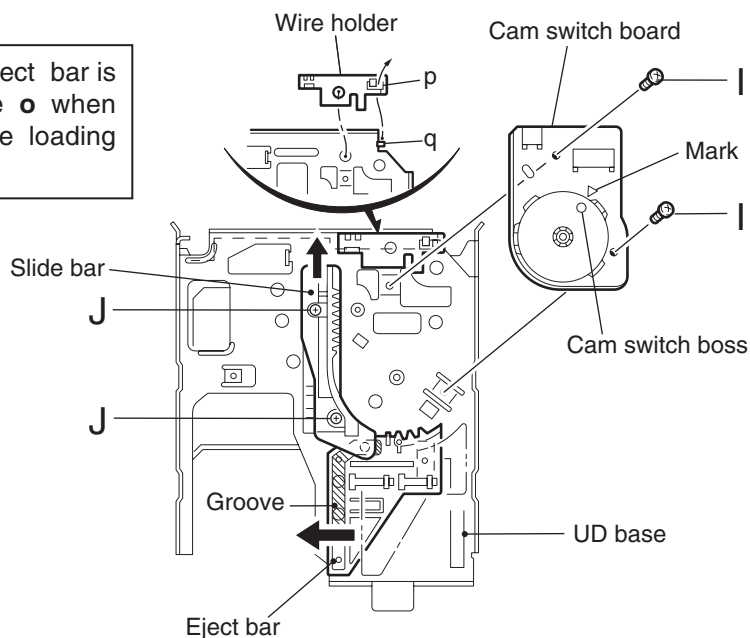

Fig.21
3. Move the slide bar and eject bar in the direction of the arrow and reattach the cartridge holder assembly using the two screw **J** (Fig.21, 22).
4. Reattach the wire holder to the UD base while fitting the bending **q** to the hole of the wire holder (The boss on the back of the wire holder is fit to the hole of the UD base)(see Fig.21).